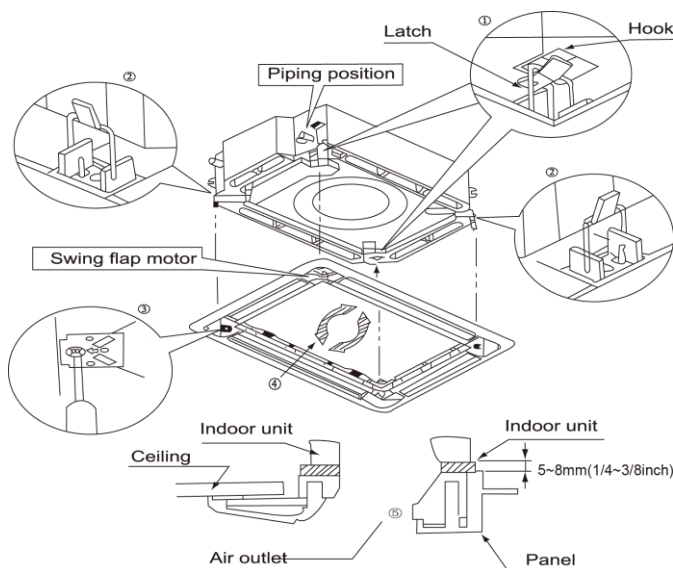

Fig. 4.34
- (1). Place the panel at the unit, and latch the hooks beside and opposite the swing flap motor.
- (2). Latch other two hooks.
- (3). Tighten four hexagonal screws under the latches about 15mm (5/8inch).
- (4). Adjust the panel along the direction indicated by the arrow as shown in Fig. 4.34.
- (5). Tighten the screws until the thickness of the sealing material between the panel and the indoor unit reduces to 5~8mm (1/4~3/8inch).